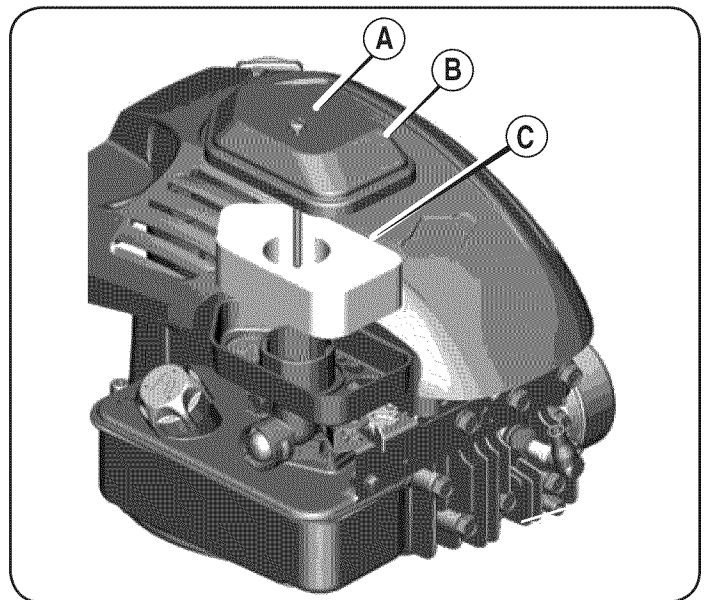

Figure 20
1. Remove the screw (A) from the top of the air filter assembly (B). See Figure 20.